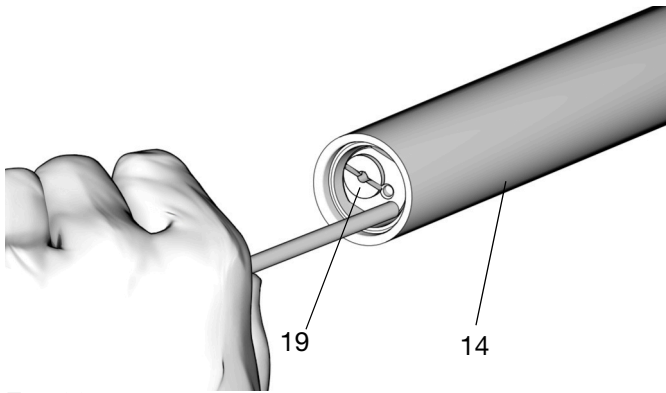

FIG. 26
27. Use a smooth, long brass or aluminum rod, free of sharp edges and burrs, to push the check valve assembly (19) out of the outlet tube (14) (FIG. 26).